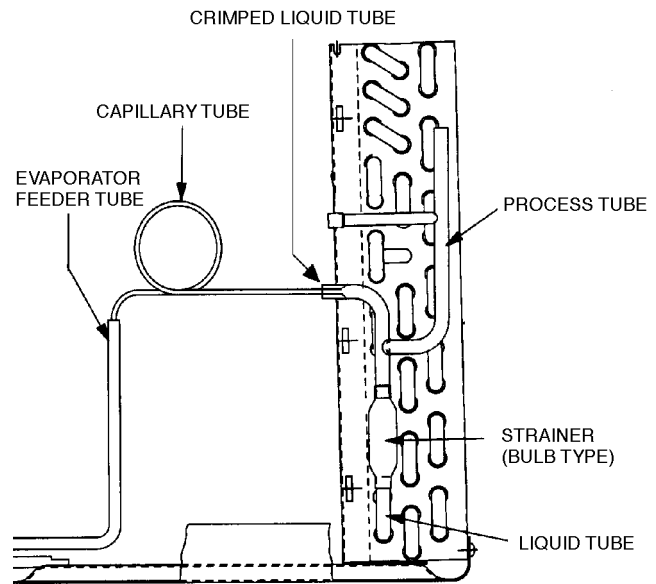

FIGURE 37 — STRAINER AND LIQUID TUBE
9. **For Cooling Only units and Heat/Cool Units:** Remove the strainer and capillary tubes from the system. A Cooling Only or Heat/Cool unit will have one strainer located in the liquid line between the outdoor coil and the capillary tube. The strainer may be an external bulb type or a tube inserted type. The tube inserted type must be cut out with a tubing cutter. Remove and save the section of liquid line tube that was connected to the capillary tube. Remove and discard the strainer. See Figures 37 and 38.